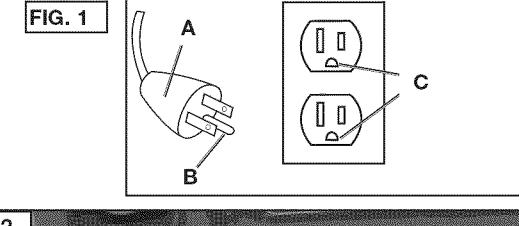

FIG. 1
##### Grounding Instructions (Fig. 1)
- 1. The cord set and plug (A) with this unit contains a grounding pin (B). This plug MUST be used with a grounded outlet (C).
- DO NOT USE AN ADAPTER.** See figure 1.